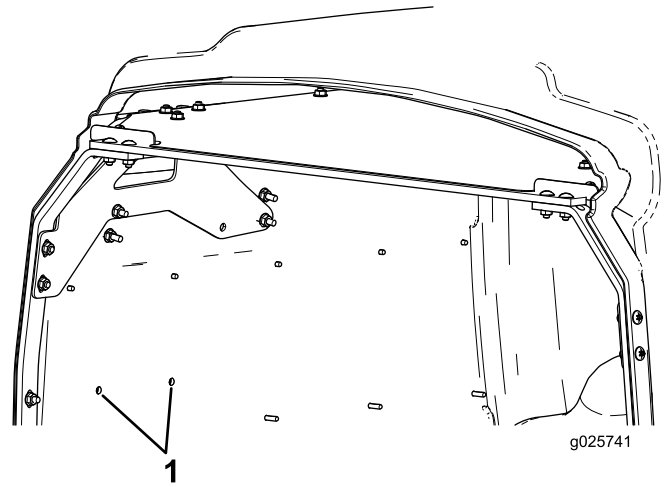

Figure 11
7. If you have a Toro unit, use the existing holes in the hopper to locate the new holes, then drill holes in the side plates using a drill bit (5/16 inch) from the inside of the hopper (Figure 11).